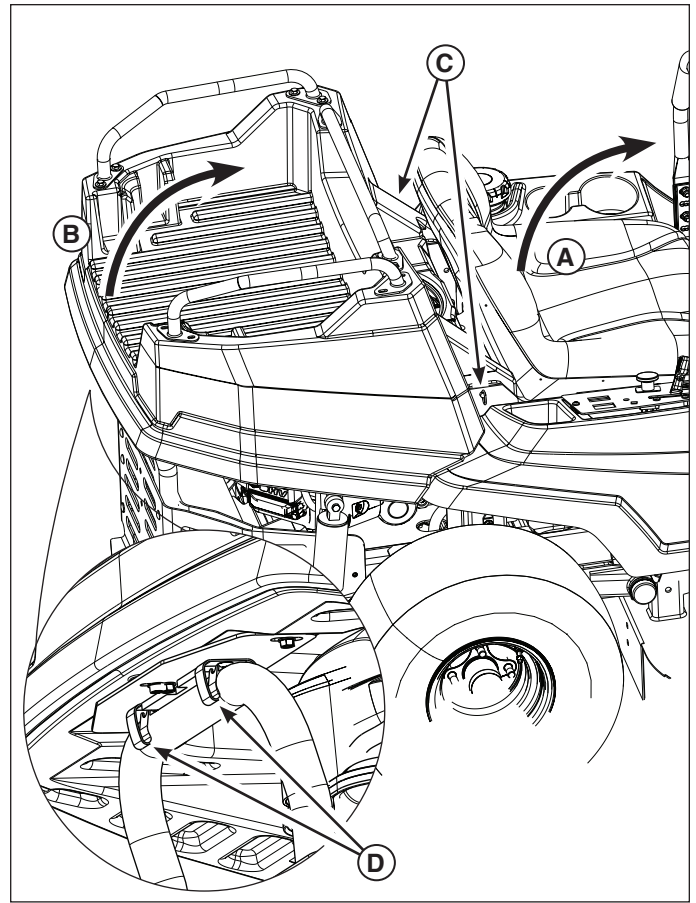

Figure 13
The cargo bed can be raised to access the engine compartment without removing it. First, raise the seat (A, Figure 13). Then pull up firmly on the rear of the bed (B). When lowering the bed, press down firmly to secure the rear of the bed in place with the locking clips (D).
To remove the cargo bed, remove the pins (C, Figure 13) securing the front of the bed to the rider frame. Pull up firmly on the rear of the bed to release the locking clips (D), then lift and remove the cargo bed from the rider.
To install the cargo bed, position the bed over the engine compartment, aligning the holes in the front of the bed with the holes in the frame brackets. Install the pins (C, Figure 13) into the holes. Then lower the rear of the bed, pressing down firmly to secure with the locking clips (D).